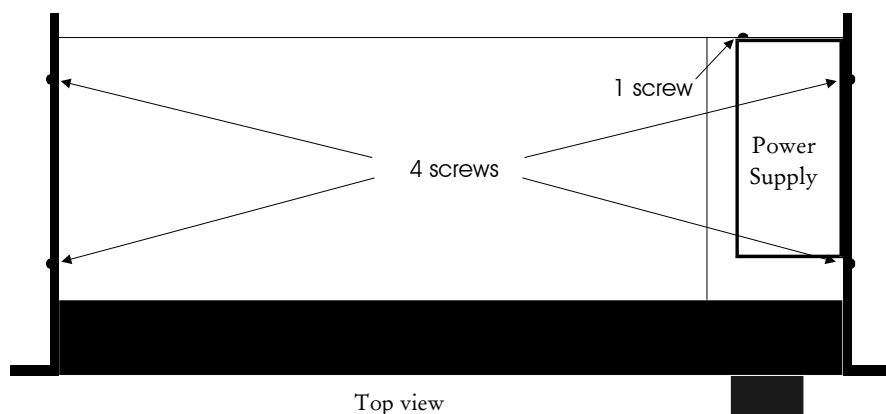

Fig. 6: Screws at side panels.
4. Loosen the front section by removing two small screws at each side panel, see fig. 6.
7. Remove the power supply by removing one screw at the back panel, just below the mains plug, see fig. 6.